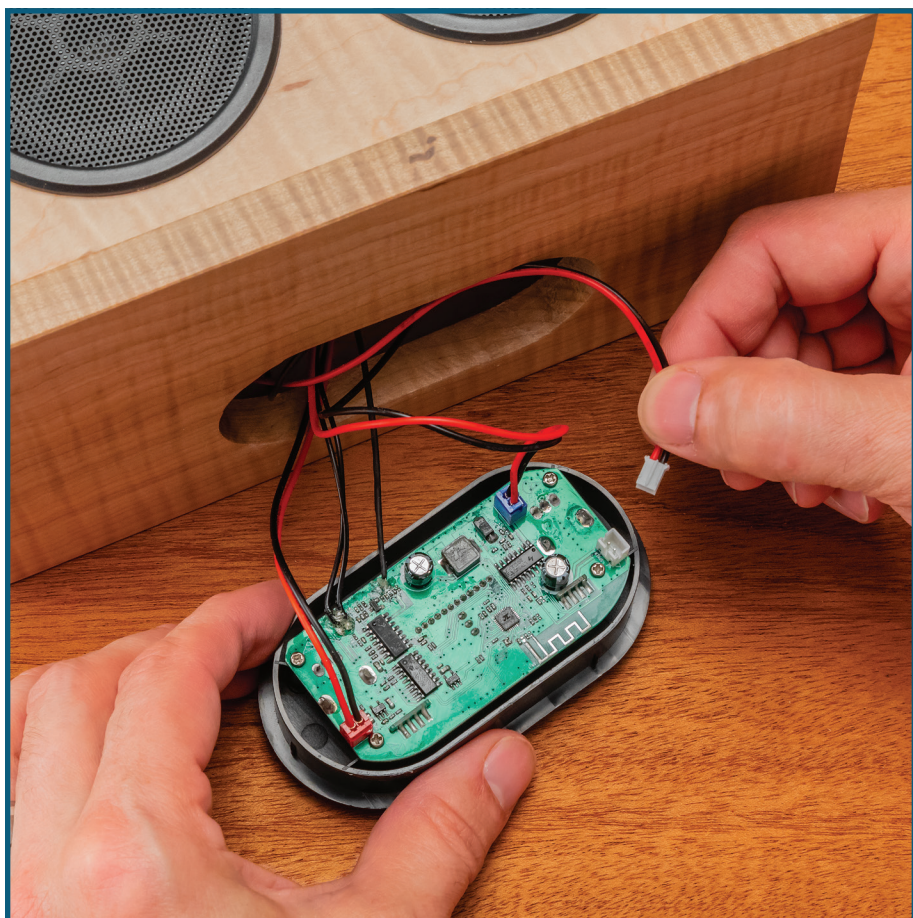

Fig. 2
6. Connect the wires from the right speaker unit and attached battery to the control unit, pressing the blue connector on the other set of wires into the blue port on the back of the control unit first and red connector on the other set of wires into the red port last. **Fig. 2.**